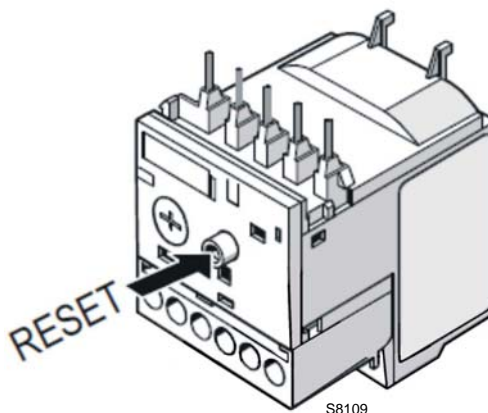

Fig. 40
- To reset, in the case of an intervention of the thermal relay, press the button “RESET” (Fig. 40).